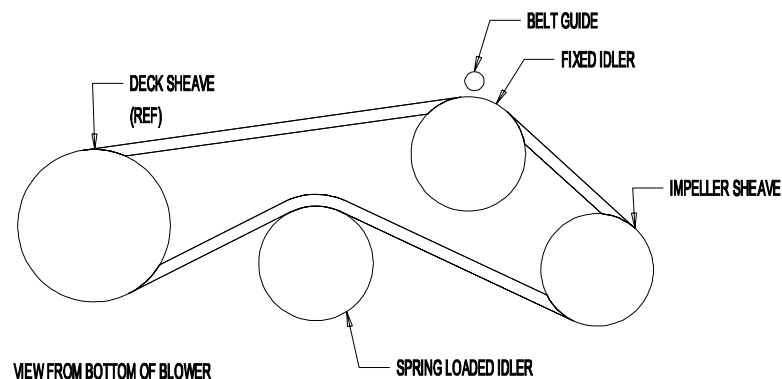

FIGURE 1
1. Remove the belt guide on the blower (Item 11). (See Figure 1)